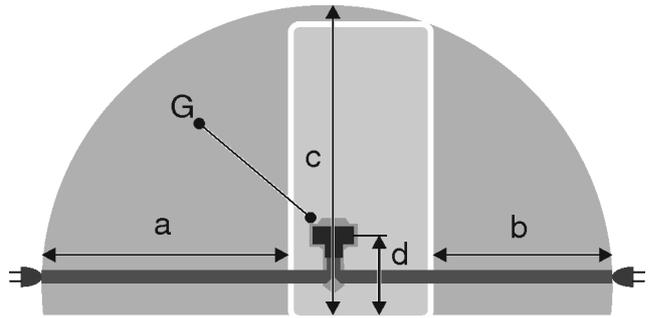

Fig. 48
- The socket is outside the back of the appliance area in the specified area *Fig. 48 (a, b, c)*.
- ▶ Insert the appliance plug *Fig. 48 (G)* into the back of the appliance. Ensure that it clicks into place.